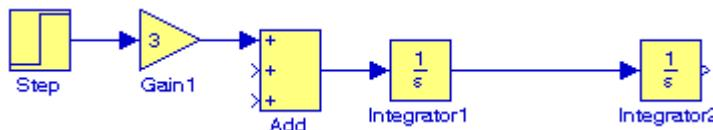

Figure 1.11. File Equation_1_26 with the addition of two integrators
6. From the **Commonly Used Blocks** of the **Simulink Library Browser**, we choose the **Integrator** block, we drag it into the **Equation_1_26** model window, and we connect it to the output of the **Add** block. We repeat this step and to add a second **Integrator** block. We click on the text “Integrator” under the first integrator block, and we change it to Integrator 1. Then, we change the text “Integrator 1” under the second Integrator to “Integrator 2” as shown in Figure 1.11.